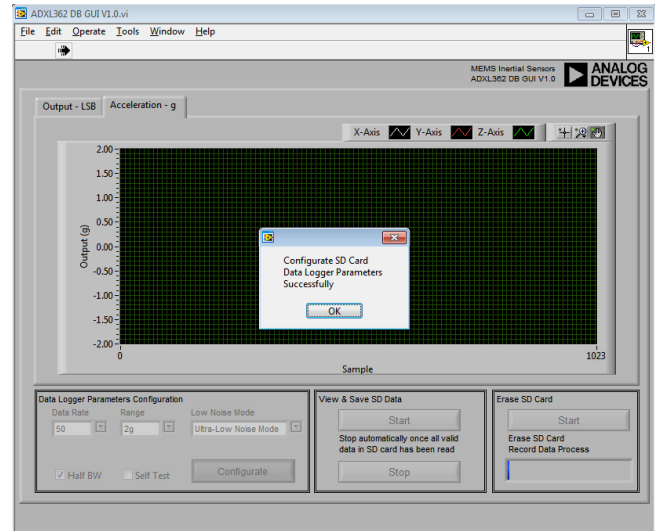

Figure 35. Configure SD Card Data Logger Parameters Successfully
- Go to **SD Data Logger** tab, you can configure ADXL362 output data rate (SD data logger frequency is based on this), measurement range, different work mode for power/noise tradeoff, internal low-pass filter pole and self test. After selection, please click **Configure** button in **Data Logger Parameters Configuration** section, if there is no problem with hardware configuration, Figure 35 will be shown. If there is something wrong with the SD card, it will give the warning message to let you check SD card.